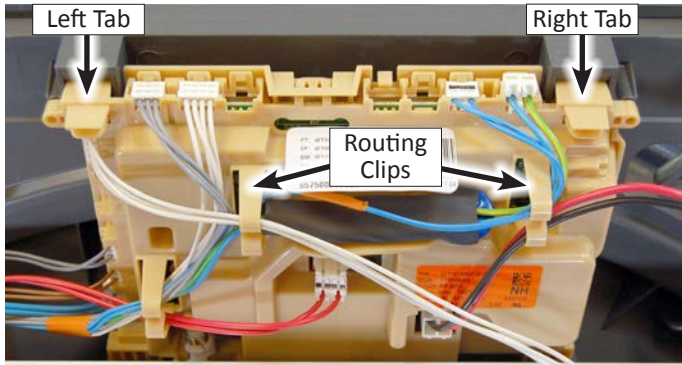

Figure 1
3. Disconnect all connectors from the ACU and remove the harnesses from the routing clips. See Figure 1.
4. Depress the top right and left tabs to release ACU from the front bulkhead. See Figure 1.